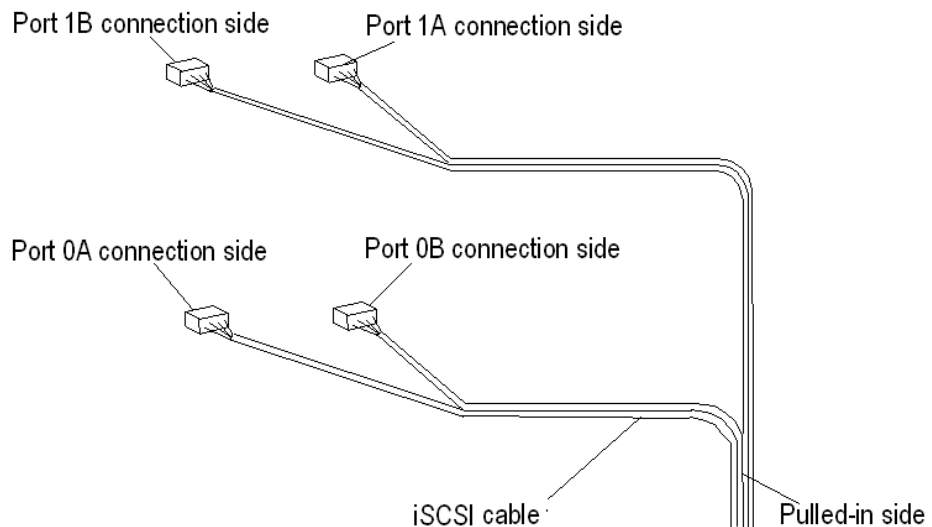

Figure 5-46: Binding iSCSI Cables Together
- Using the reusable cable ties provided, bind the cables together and fasten them securely to the rack at enough places to keep the cables close to the rack over their entire length. Leave extra length for each cable so that the connectors will not be pulled out of the sockets. See Figure 5-46.